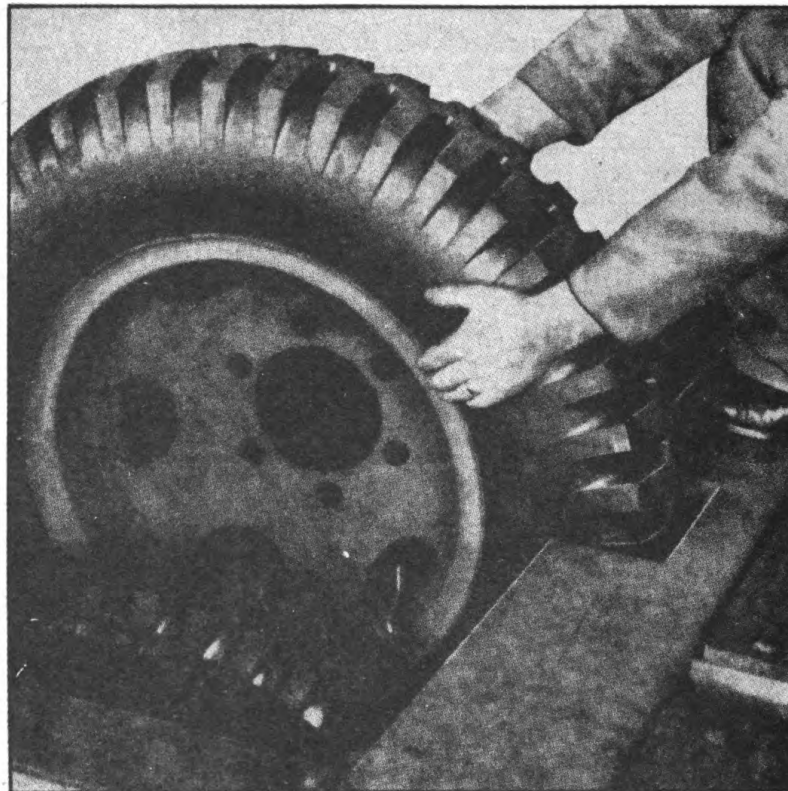

FIGURE 73. REMOVAL REAR INNER TIRE ASSEMBLY
4. INNER WHEEL ASSEMBLY, REAR AXLE (Figure 73).—*a. Removal.*—(1) When removing inner wheel assembly, it is necessary to remove the two tire assemblies prior to removal of hub assembly.